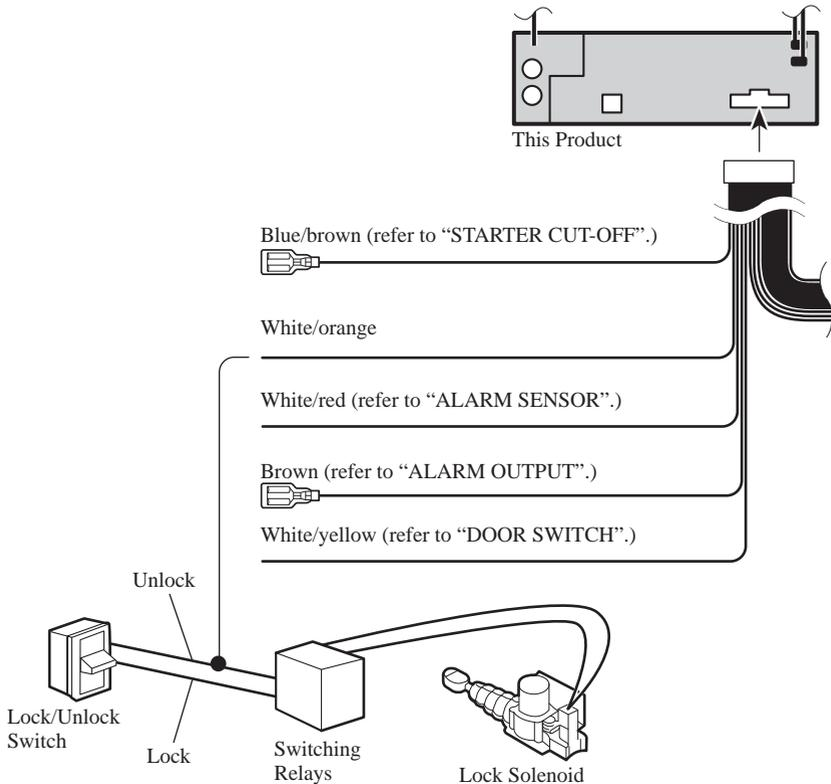

Fig. 8
- **White/orange (DOOR LOCK)** ..... (Fig. 8)